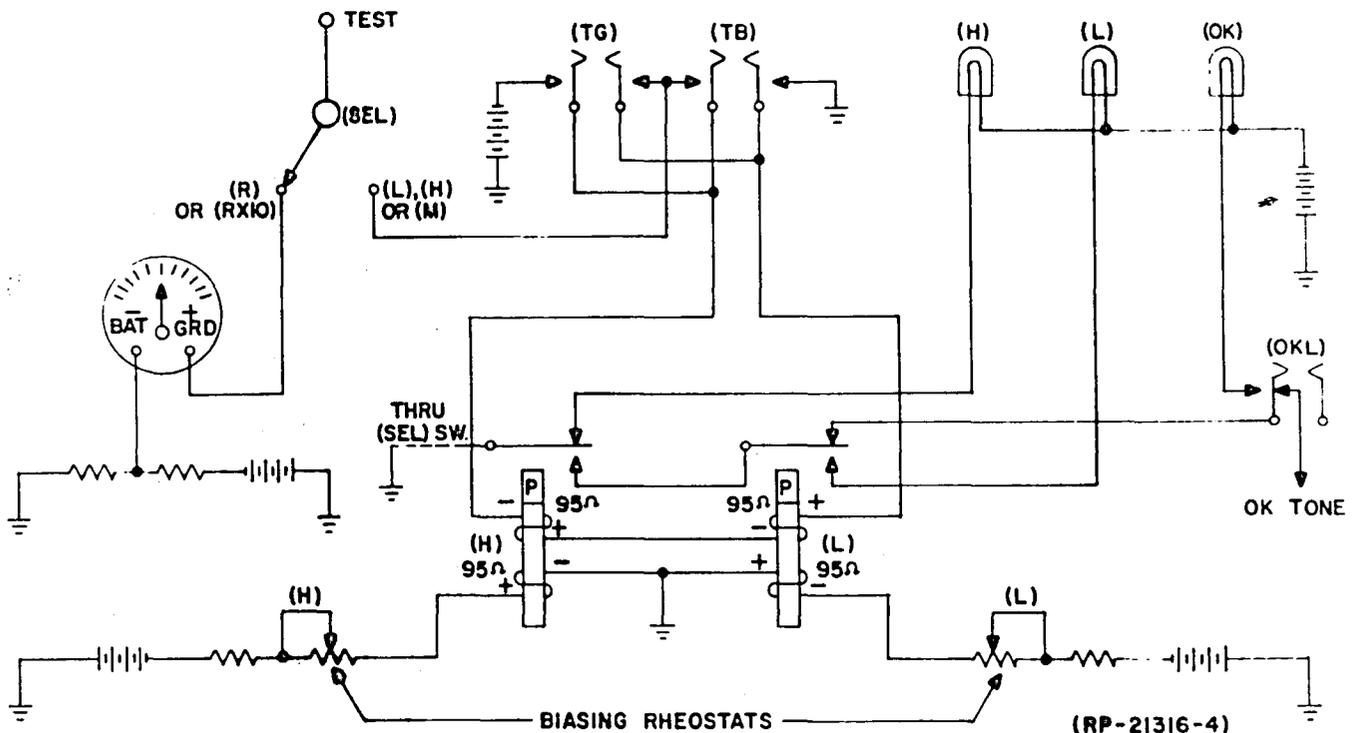

FIG. 1 SIMPLIFIED SCHEMATIC - RAPIDOHM TEST SET
2.1 This set consists of two units, one a center scale ohmmeter which reads ohms to 48 volts battery or ground and the other, a continuity test circuit (H and L relays of Figure 1) arranged to automatically detect an incorrect condition on any one of a group of similar leads.
2.21 As shown in Figure 1, the conductor under test is connected thru the meter to the midpoint of resistance networks. The meter scale is calibrated
(b) Turn knobs L and H to their extreme clockwise position. This sets the resistance at maximum or the biasing current at minimum. Lamp L will be lit. Turn L counterclockwise until L lamp goes out, OK lamp lights and OK buzzer is heard. (See Figure 1).